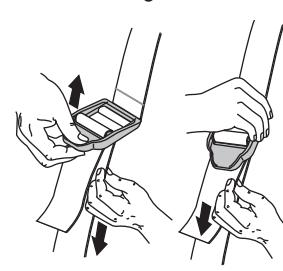

Fig. 19
- Adjust length to fit the operator's size. Pull tab to lengthen, pull strap to shorten (Fig 19).